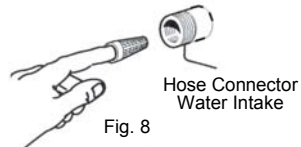

Fig. 8
**Checking the Water Intake Filter:** The water intake filter is located inside the water intake connector. (Fig. 8) Remove periodically and inspect for any deposits that might accumulate there.